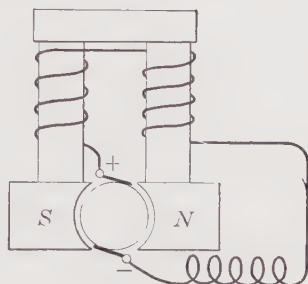

FIG. 6.
1. Series wound generator in which the armature and field coils are connected in series, as shown in Fig. 6, so that the same current flows through both.